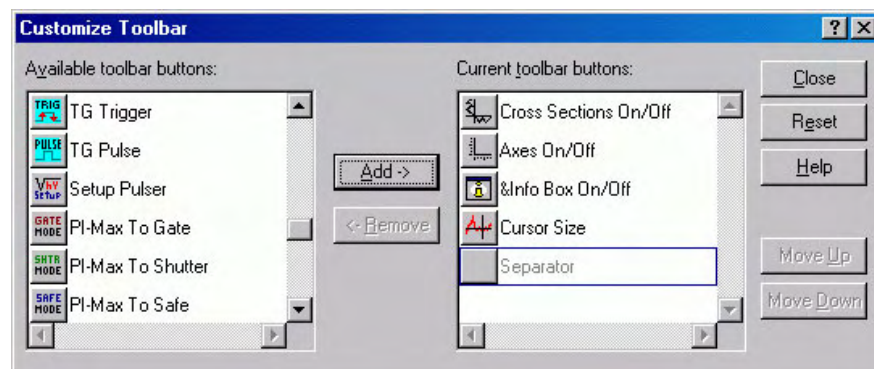

Figure 144. Customize Toolbar dialog box
Although the **Custom Toolbar** defaults with the buttons shown in Figure 143, many additional buttons are in fact available and can be added to the button using the Customize Toolbar dialog box (Figure 144). Buttons can be added or removed at any time and the new configuration will be saved when the dialog box is closed.
2. Referring to Figure 144, note that the buttons available for placement on the **Custom Toolbar** are listed on the left. Buttons already on the toolbar are on the right.
2. Referring to Figure 144, note that buttons already on the toolbar are listed on the right. Available but unused buttons are listed on the left.